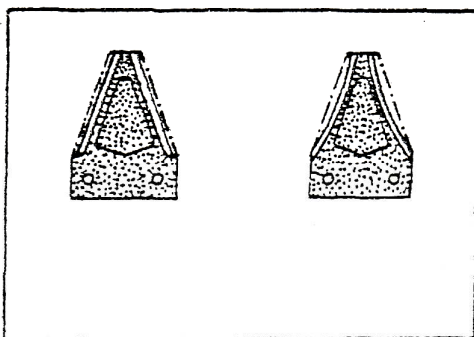

Figure 19
- Well and properly ground blades, see Figure 19.